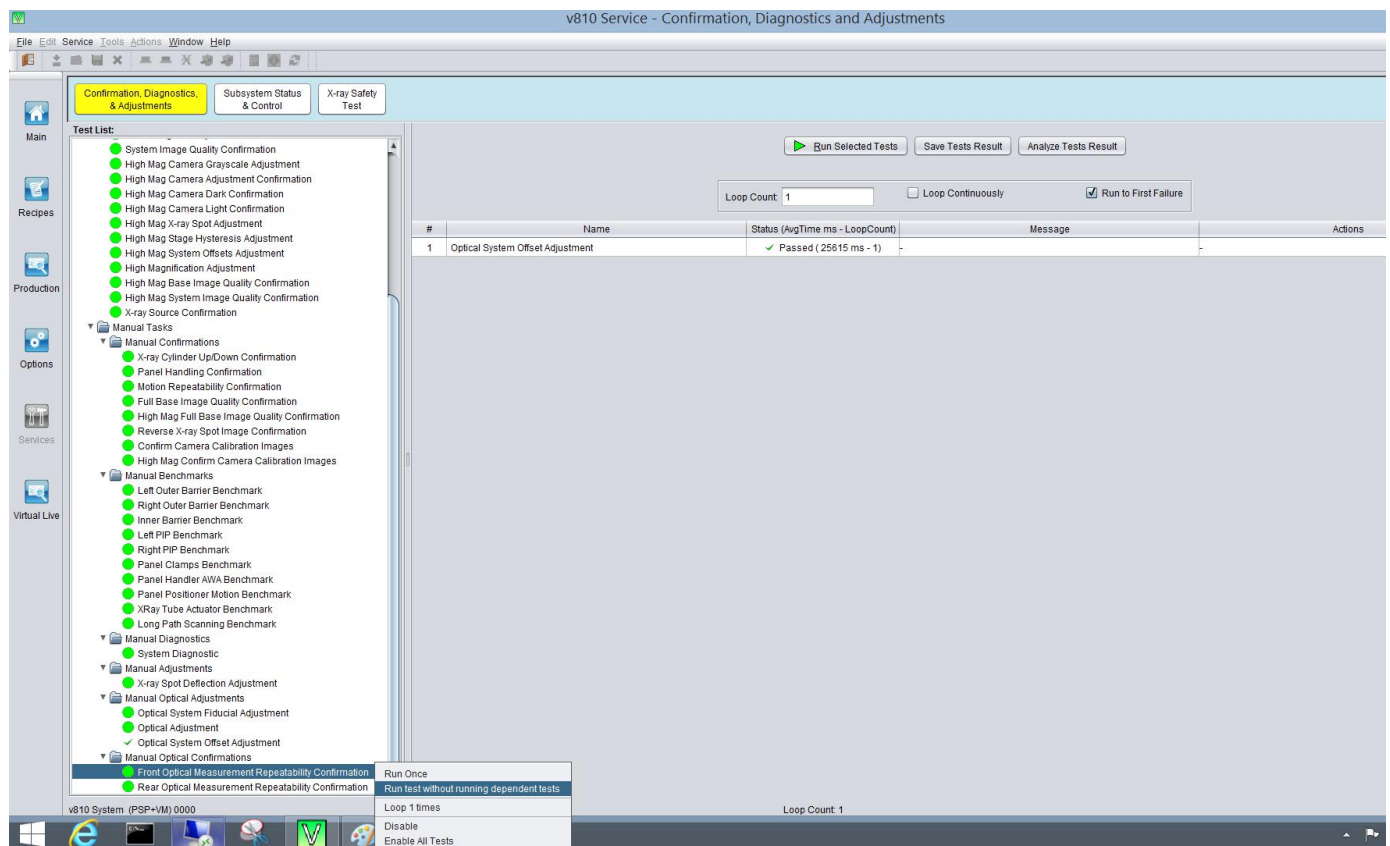

Figure 31 Optical System Offset Adjustment
22. Once the jig is removed as shown in the Step 18, the status of the test will be shown as in Figure 31.